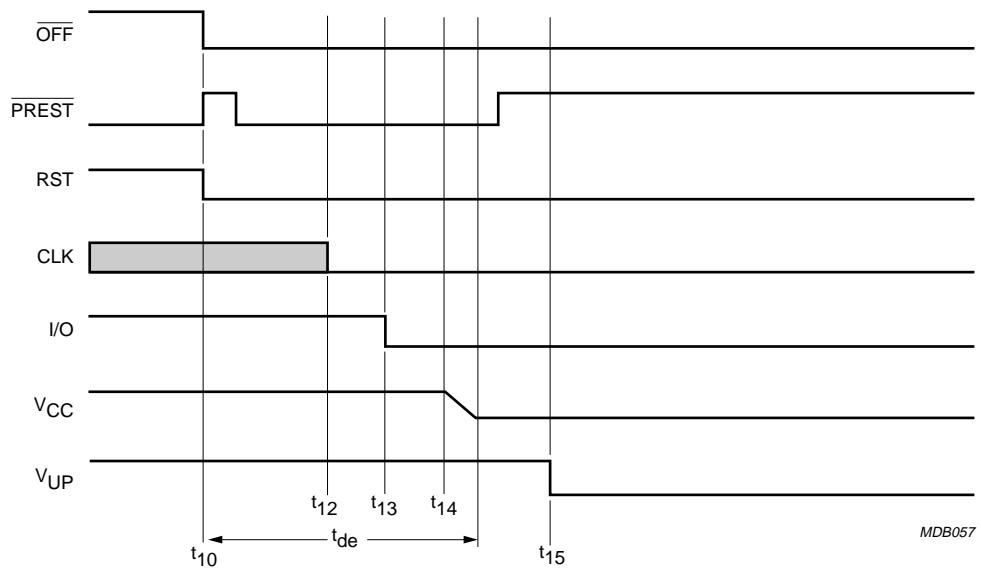

Fig.11 Emergency deactivation sequence (card extraction).
- **CMDVCC LOW within a card session.** Output  $\overline{OFF}$  goes LOW when a fault condition is detected. As soon as this occurs, an emergency deactivation is performed automatically (see Fig.11). When the system controller resets  $\overline{CMDVCC}$  to HIGH it may sense the  $\overline{OFF}$  level again after completing the deactivation sequence. This distinguishes between a hardware problem or a card extraction ( $\overline{OFF}$  goes HIGH again if a card is present).